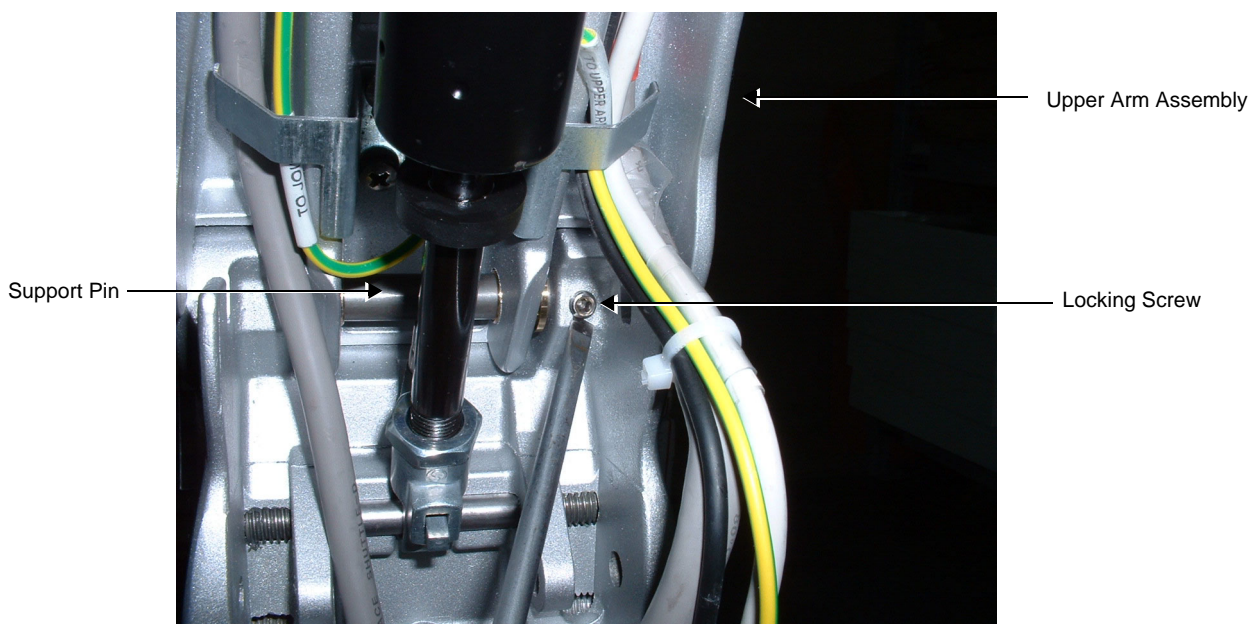

Figure 8-239 Locking Screw Securing Support Pin on Lower Section of Upper Arm
- 7.) Release the locking screw securing the Upper Arm support pin as shown in Figure 8-239.